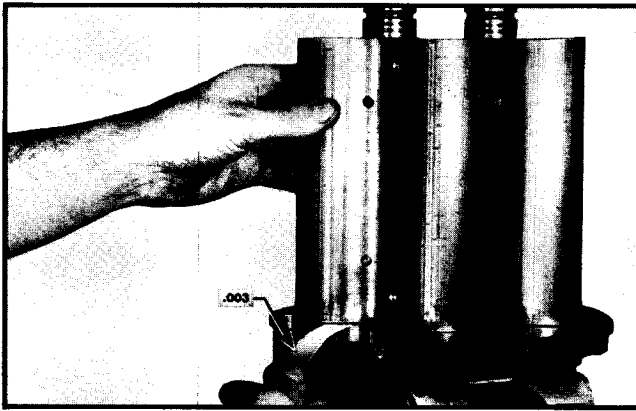

Fig. 10-10. Checking rotor end clearance
10. Check clearance between rotors and end plate. See Fig. 10-10. The clearance should be .003" with rotors pushed toward gear end plate which excludes the end play.